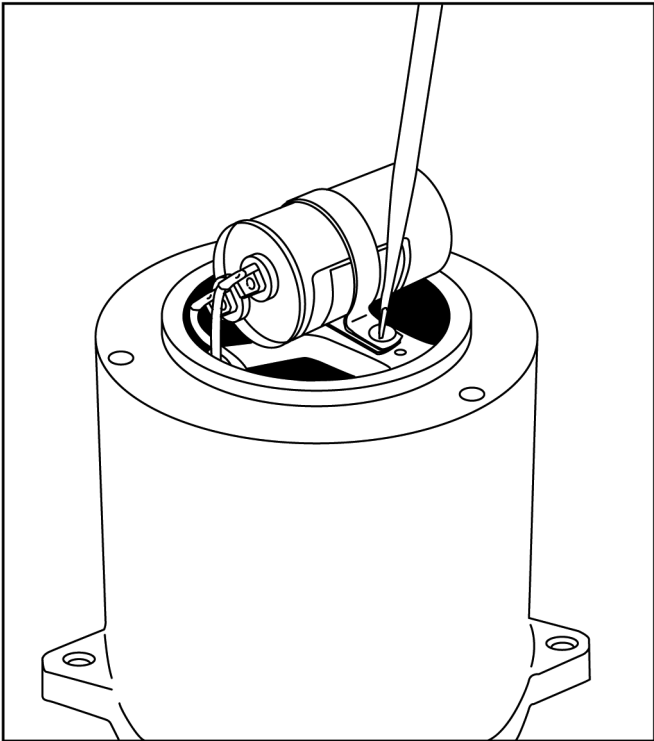

FIG. 11
4. Remove capacitor clamp and slide out capacitor. Replace with new capacitor and re-connect. Fig. 11